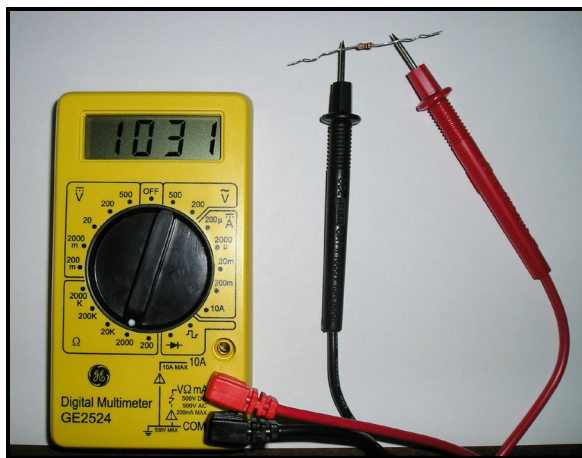

Figure 1. Measuring Resistance.
1. Use a multimeter on the ohmmeter ( $\Omega$ ) setting to measure the value of resistance for each of the resistors. Look at Figure 1 for help.